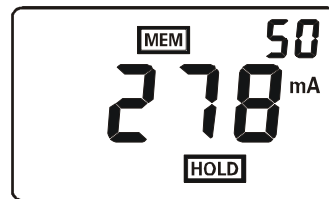

Figure 10
*As indicated in Figure 10, lock the measured current 278mA, and save it as data unit No.50. And the memory is full now.